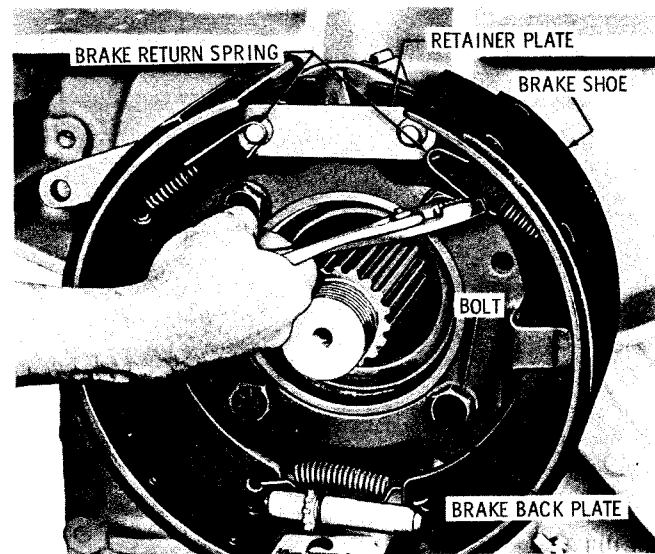

Fig. 5-55. Removing parking brake shoe return spring
(5) Using pliers, remove two brake shoe return springs (fig. 5-55). Remove the brake re-